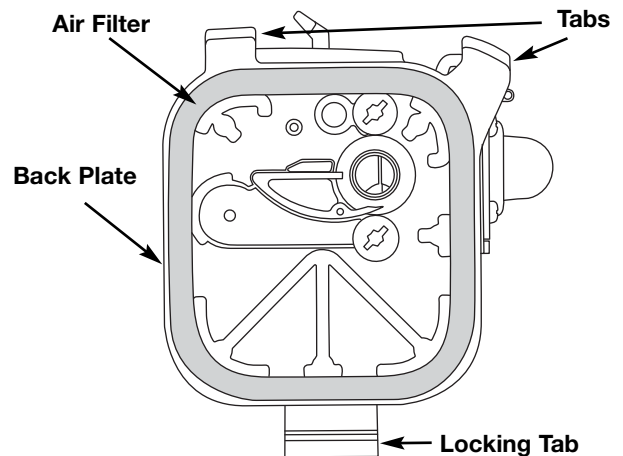

Fig. 24
2. Remove the air filter (Fig. 24).
6. Replace the filter (Fig. 24).
- Reinstall the air filter cover. Position the slots on the top of the air filter cover onto the tabs at the top of the back plate (Figs. 24 & 28).